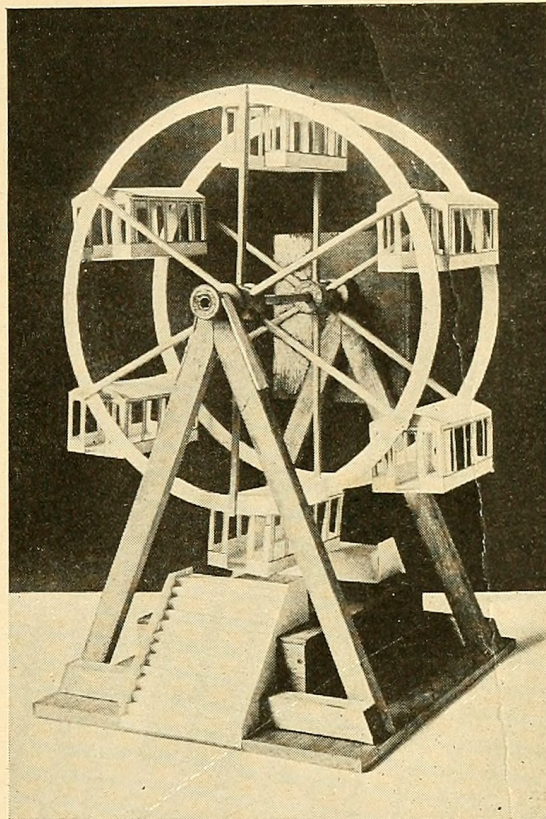

FIG. 255. A FERRIS WHEEL.
**A Miniature Ferris Wheel** like the one shown in Fig. 255.
**To mount the Wheel** upon its standard, whittle an axle  $8\frac{1}{2}$  inches long to fit the hubs, then hold the wheel between the two uprights, with the hubs on a line with the spool bearings and run the axle through the holes (Fig. 255).
**Build Steps** at each end of the platform out of heavy writing-paper or light cardboard. Fold the paper or cardboard back and forth, making pleats about  $\frac{1}{4}$  inch wide, for the steps, and after gluing it in place, cut out the *balustrades* and glue them to the edges of the steps. Make the top step low enough so there will be about  $\frac{1}{4}$ -inch clearance between it and the bottom of the cars (Fig. 255).